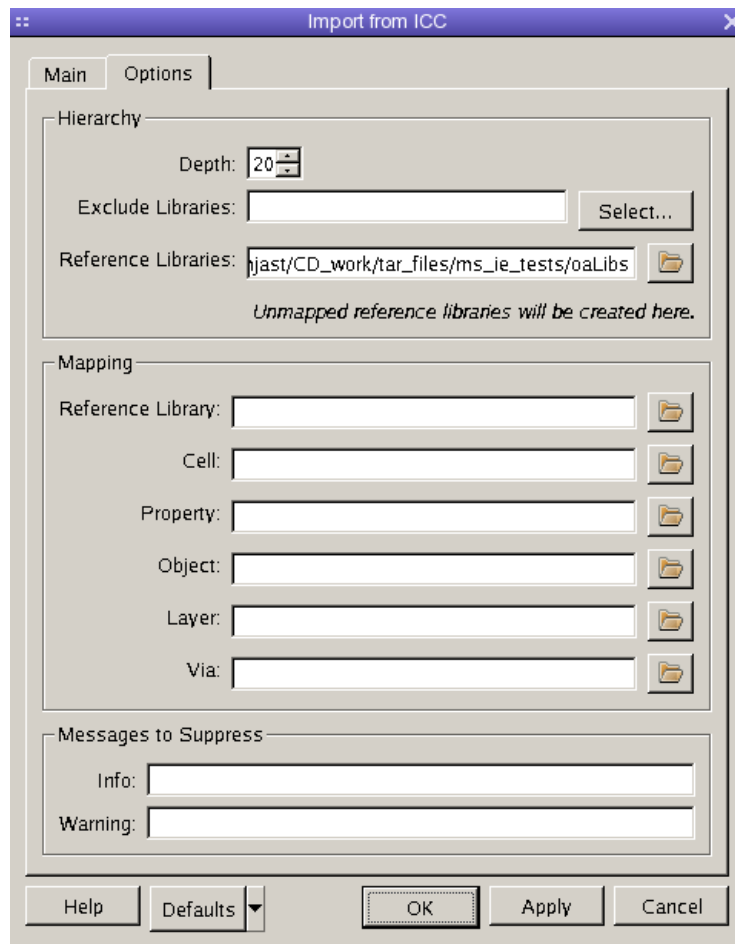

Figure 14 Import from ICC Dialog: Options Tab
4. In the **Options** tab (shown in Figure 14), specify optional details.